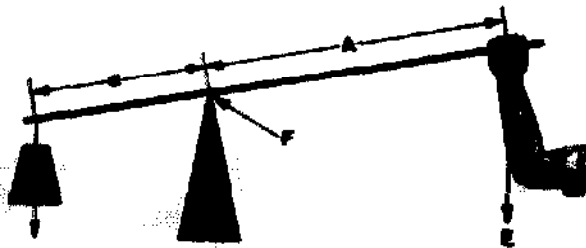
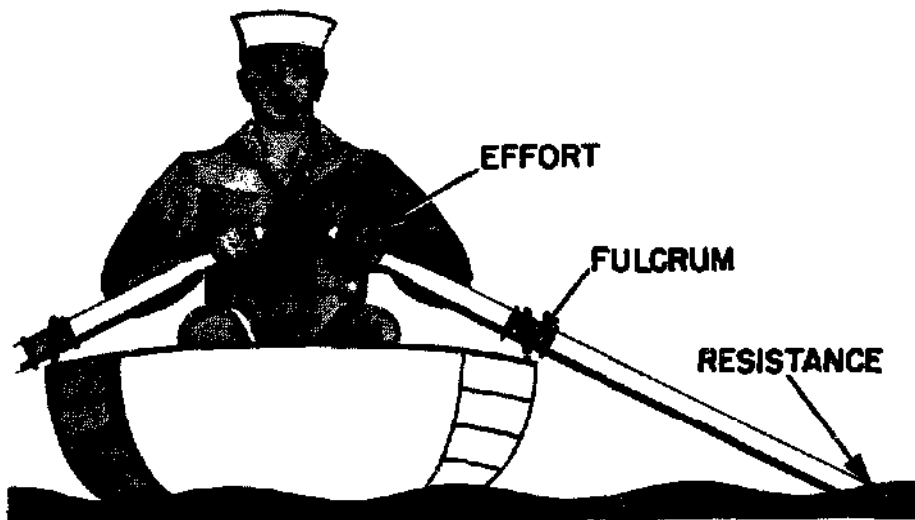

Figure 1-1.—A simple lever.
Figure 1-3.—Oars are levers.
There are three basic parts which you will find in all levers; namely, the FULCRUM (F), a force or EFFORT (E), and a RESISTANCE (R). Look at the lever in figure 1-1. You see the pivotal point F (fulcrum); the EFFORT (E) which you apply at a distance A from the fulcrum; and a resistance (R) which acts at a distance a from the fulcrum. Distances A and a are the lever arms.
The amount of weight and the distance from the fulcrum can be varied to suit the need. Another good example is the oars in a row-boat. Notice that the sailor in figure 1-3 applies his effort on the handles of the oars. The oarlock acts as the fulcrum, and the water acts as the resistance to be overcome. In this case, as in figure 1-1, the force is applied on one side of the fulcrum and the resistance to be overcome is applied to the opposite side, hence this is a first-class lever. Crowbars, shears, and pliers are common examples of this class of lever.